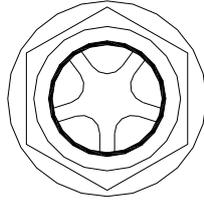

Figure 2.2b: oil level glass
The oil level glass (figure 2.2b) has been mounted in one of the sides of the machine, or in the backside of the machine. The oil level must lie between the signs: "MIN" and "MAX". For the machines the rule is that the oil reservoir must be filled until **80%**. An exception is the VMS43 from which the oil reservoir must be filled only until **60%**. A little less oil is better than a bit more.
- When there is no oil drain plug present, the oil level glass functions as drain plug (figure 2.2b).